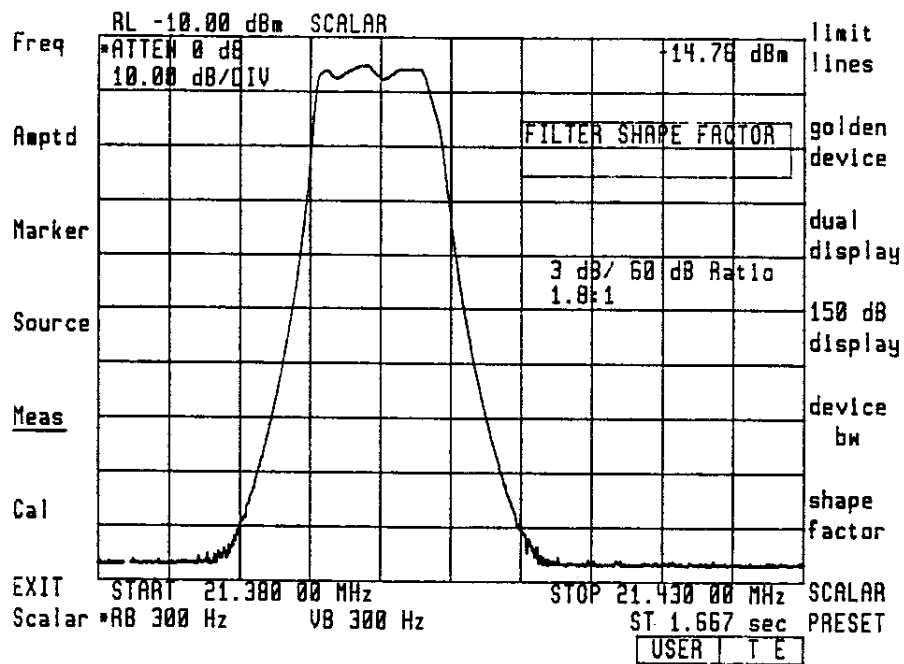

Figure 5-8. Filter Shape Factor
4. Press **60**, **ENTER** to enter the lower bandwidth as the 60-dB bandwidth relative to the highest peak of the displayed response. The 60 dB : 3 dB shape factor now appears on the screen (Figure 5-8).